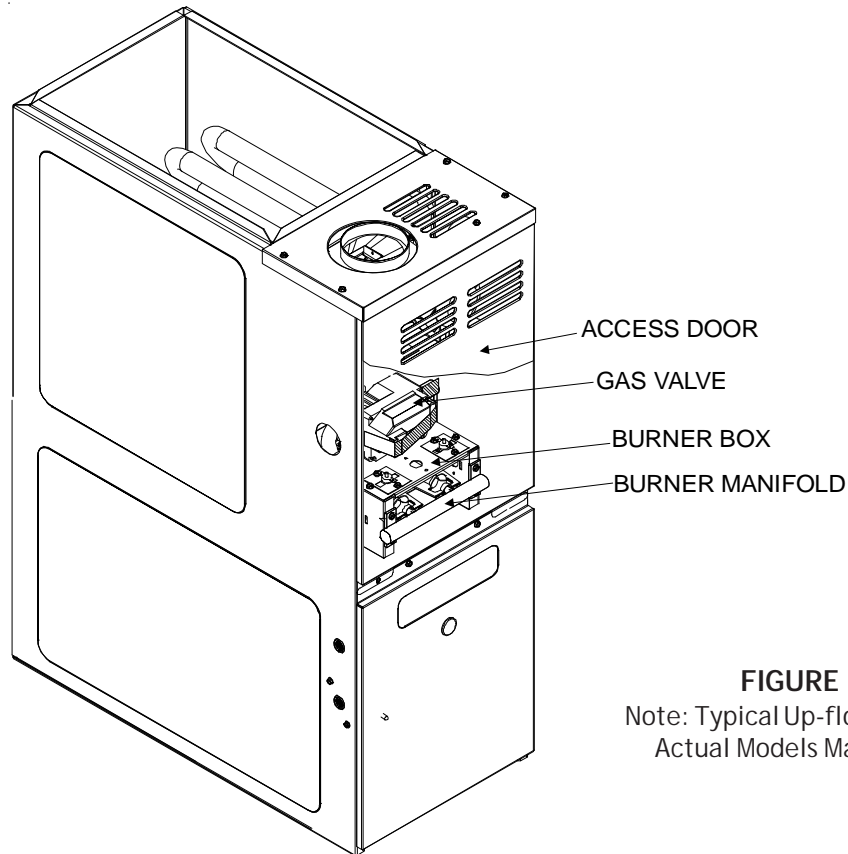

FIGURE 1
3. Remove the gas control access door. See figure 1 for the location of these components.
5. Remove the (4) sheet metal screws which fasten the gas manifold to the burner box. See figure 1 for component location. On PGB series take care not to break the Hot Surface Ignitor on the pilot assembly.
8. **For 36G22/36G54 valves:** Using a 3/32" Allen wrench, loosen the inlet and outlet pressure tap screw one (1) turn only (DO NOT REMOVE). Attach a length of 5/16" hose to each of the pressure tap bosses. Connect the 5/16" hose to two (2) separate water manometers or other adequate gauges having a scale range of at least 0" to 20" of water column.